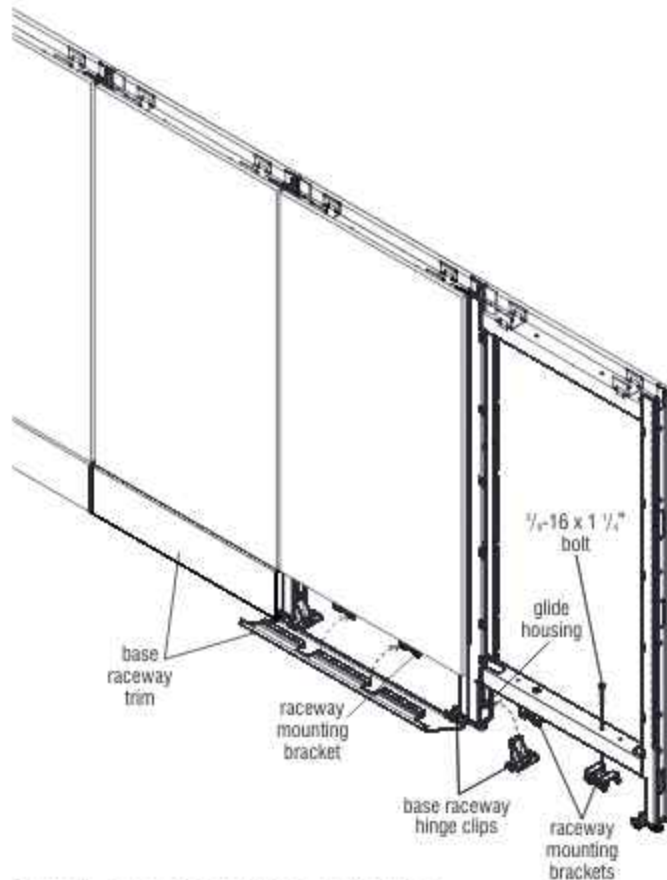

Figure 1 - Base Raceway Trim Installation
1. If not previously installed to panel frame, install two raceway mounting brackets with  $\frac{3}{16}$ -16 x  $1\frac{1}{4}$ " bolts provided (Figure 1).
2. At the bottom of the panel frame which will receive the base raceway trim, install two plastic base raceway hinge clips by nesting the hooks of the clips into the two slots in glide housing top, then press down to snap hinge clip into place (Figure 1).
3. Install the base raceway trim to the frame by first aligning the slots at the bottom of the raceway trim with the bumps at the bottom of the base raceway hinge clips. After both ends are engaged to hinge clips at the bottom, rotate the top of the base raceway trim up toward the frame and snap the top onto the rigid wireway mounting bracket to secure (Figure 1).